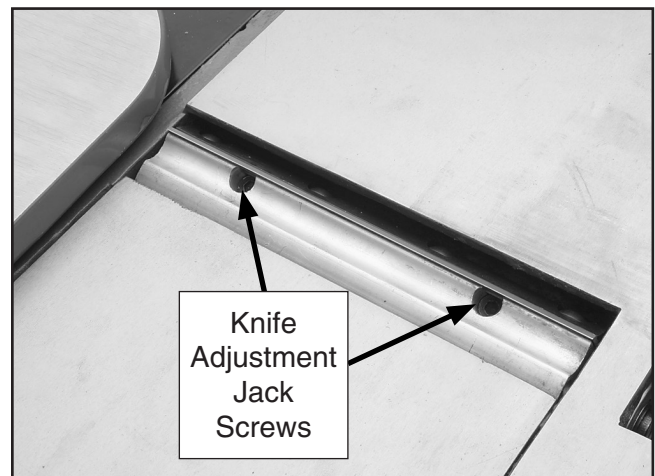

Figure 47. Knife adjustment jack screws.
8. Check the alignment of the knives to the outfeed table. They must be parallel. If the knife is not parallel to the outfeed table, use the knife adjustment jack screws (see **Figure 47**) to fine tune the position of the knife. Refer to **Checking Outfeed Table Alignment on Page 17** for detailed instructions for adjusting the position of the knife.